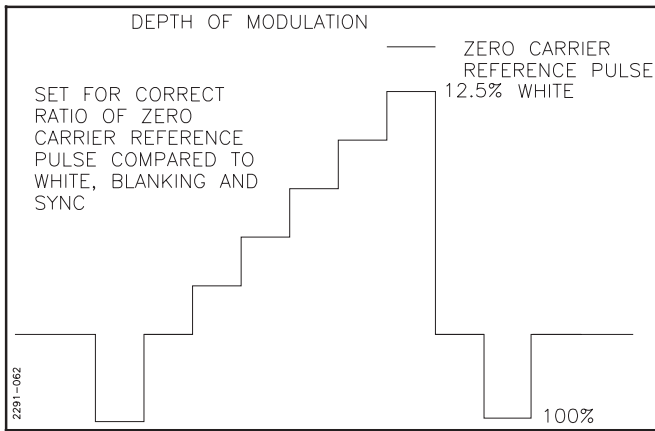

Figure 5-2. Depth of Modulation
Refer to Figure 5-2
5. Readjust MOD BIAS for correct modulation depth at white. See Figure 5-2.